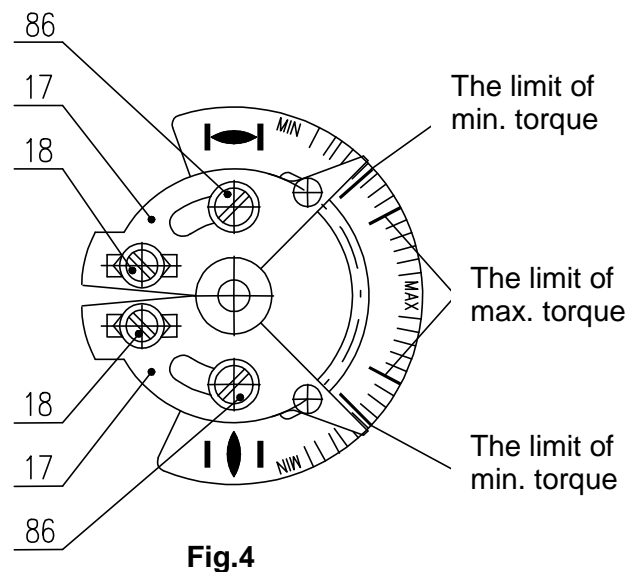
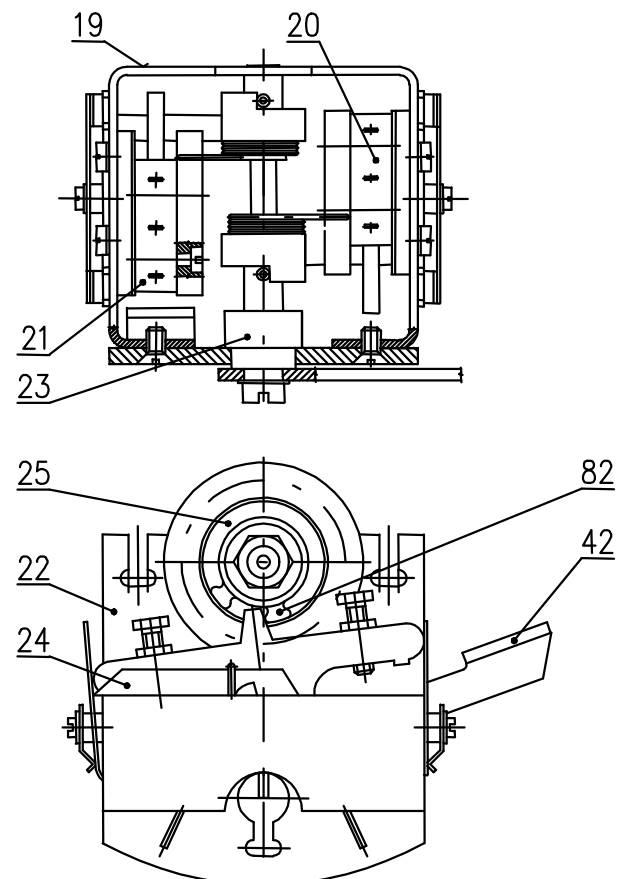

Fig.4
Fig.5
Check of torque switches (Fig.5). When the actuator moves towards "close" and at torque switches connection to "torque switching-off" should be contacts of switch S2 switched over by pressing of disconnecting bell (24 Fig.5) of relevant switch. If the connection is properly performed, the actuator must stop. When the torque switches are connected for "signalization" only, signalization on control box panel will be activated.
- Torque disk (**Fig. 4**)
- Torque unit with locking mechanism (82) (**Fig. 5**)
Torque disk (Fig. 4) is assembled on torque shaft discharged from power transmission (**Fig.2**). Steer angle of torque disk is proportional to torque of output shaft of electric actuator. Its magnitude can be adjusted by segments (17) and by shifting of backstops (18) (**Fig. 4**). Achieved torque value is from torque disk transferred on torque unit by means of torque lever (42) (**Fig. 5**).
Locking mechanism (82) (Fig.5) provides locking of torque disconnection usually to 1 or 2 turns after reversing of electric actuator. After elapsing of adjusted revolution will torque unit acquire its original function.
Disconnecting torque can be adjusted only in connection with a device for torque measurement and only within relevant range, according to specification table, by rough regulation (17) and soft regulation (18), (**Fig.4**).
Adjustment of disconnecting torque by means of segments (17), (**Fig.4**), can be performed only within highlighted interval MIN – MAX on torque disk within relevant power range of electric actuator.